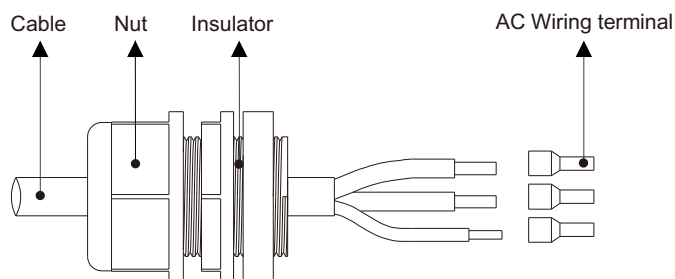

Figure 16
- (1) Measure the voltage and frequency of the connection access point, and make sure it is in conformity with the specification of grid connection.
- (2) The PE line (ground wire) of the inverter must be reliably earthed so as to ensure the impedance between the neutral line and ground wire is less than 10 Ω .
- (3) Disconnect the AC circuit breaker between the inverter and the power grid.
- (4) Loosen the nut.
- (5) Disassemble the single-aperture sealing ring.
- (6) Pass the cable successively through the nut, single-aperture sealing ring, AC protective cover and AC wiring terminal (as shown in Figure 16)